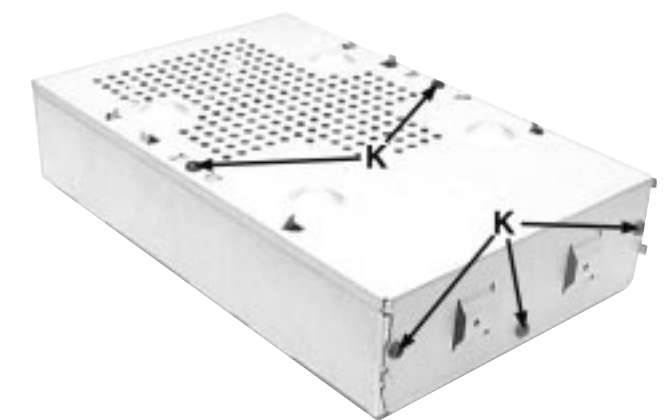

Figure 10
- 3) Remove 8 screws K (see Figure 10) to loosen the Chassis Top of the Power Box (see Service position A for Power Box).